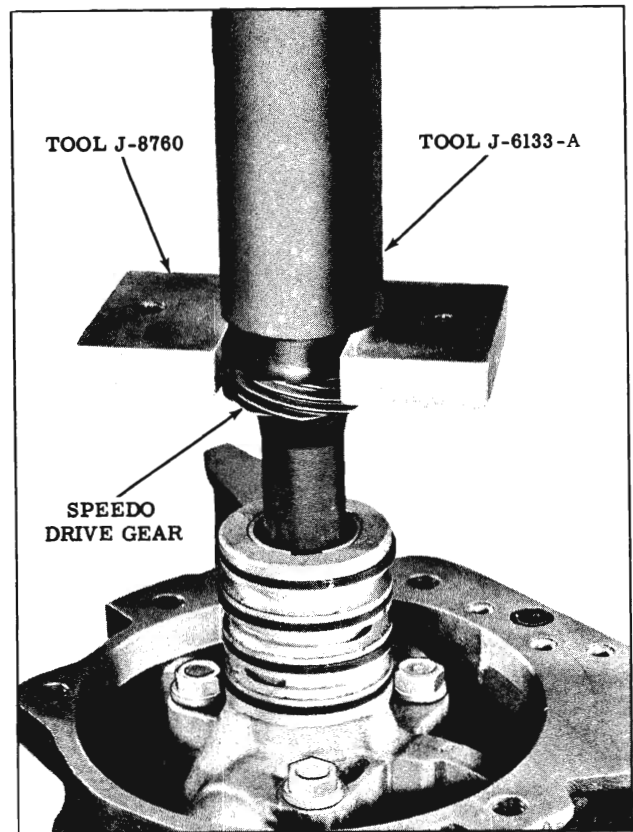

Fig. 3-303 Installing Speedometer Gear
27. Install the speedometer drive gear 1/2" past snap ring groove using Tool J-8760 and 6133-A. (Fig. 3-303, 3-304)